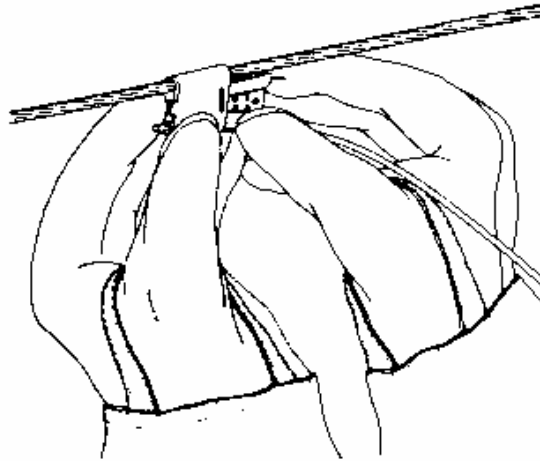

Figure 4
- c) Adjust and push the "Wedge" component between the conductors with the fingers making sure the clip is facing the right way . See Figure 4 .